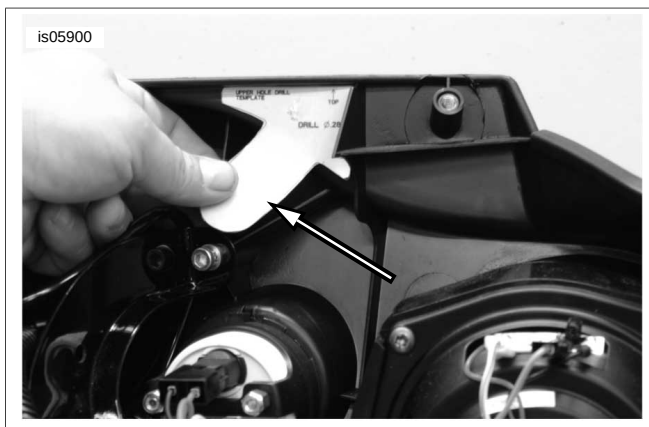

Figure 1. Road Tech Zumo Drilling Template Placement
3. See Figure 1. Obtain the drilling template from the kit.